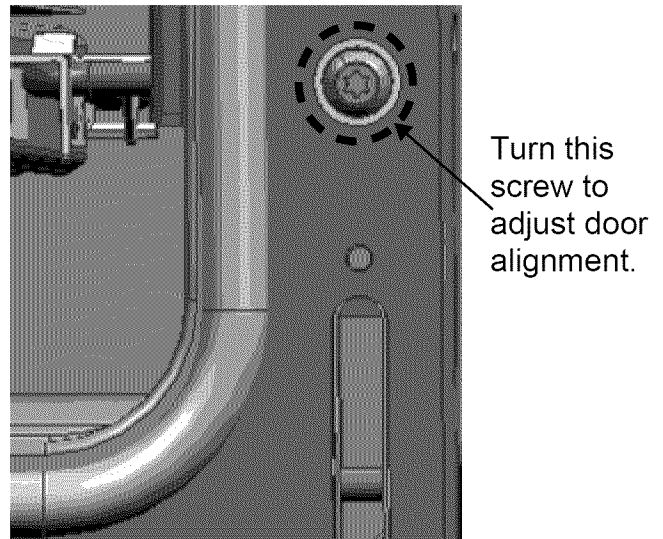

Figure 24: Hinge Receiver Adjustment Screw
3. For 48" models with large and small ovens, if door or handle appears slightly tilted, you may adjust the hinge receiver by rotating the large Torx-head screw located directly above the hinge receiver with a T-20 Torx driver. Rotate each screw respective to its side and direction the door needs to be adjusted (*Figure 24*).